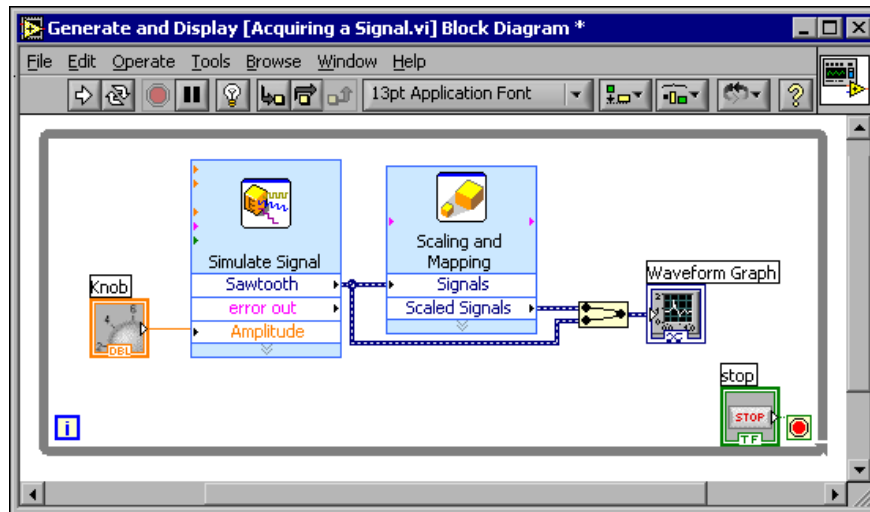

Figure 1.23
2. Using the Wiring tool, wire the Sawtooth output to the Waveform Graph terminal.  The Merge Signals function, shown in this media, appears where the two wires connect. This function takes the two separate signals and combines them so that both can be displayed on the same graph. The block diagram should appear similar to Figure 1.23.